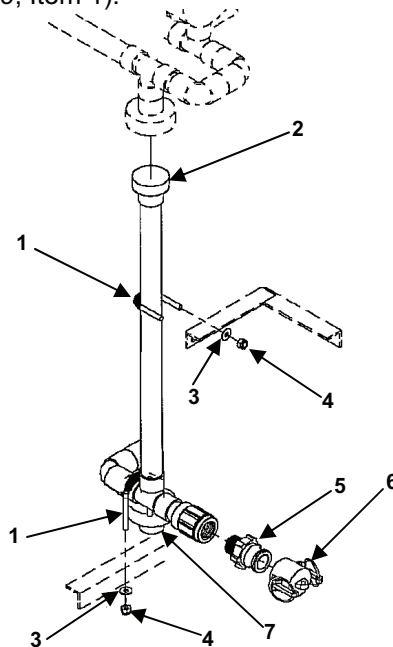

Figure 9. UF Reject Outlet Piping.
1. Loosen the unions 2 ea. (Figure 9, Item 2 and 7). Remove nuts (Figure 9, Item 4), washers (Figure 9, Item 3) and remove U-bolt (Figure 9, Item 1).
2. Remove male camlock (Figure 9, Item 5) and dust cover (Figure 9, Item 6) only if necessary.
1. Refer to Figure 9 for this piping.
3. Tighten unions (Figure 9, Item 2 and 7).
4. Install the U-bolt (Figure 9, Item 1) and fasten the lock nuts (Figure 9, Item 4) washers (Figure 9, Item 3) to the U-bolt (Figure 9, Item 1).